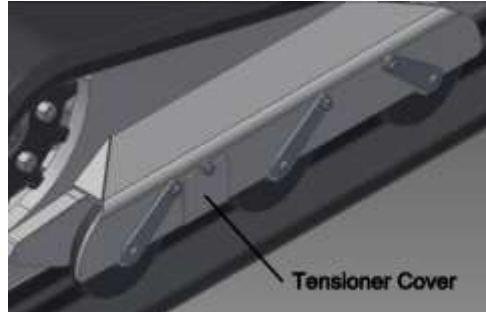

Figure 24: Track tension cover
- 1) Locate tensioner cover on tracks and remove as seen in Figure 24